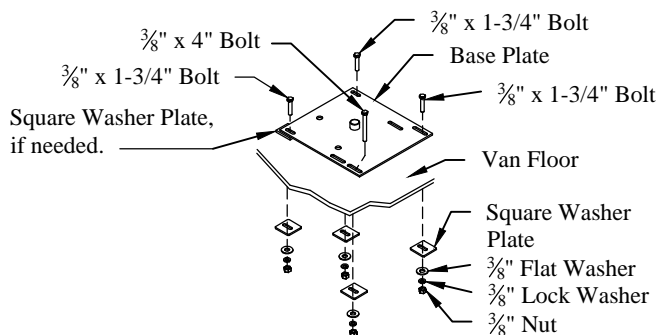

Figure 4: Base plate hardware.
- 9. Bolt** the base plate to the vehicle floor using the hardware provided (Figure 4). Be careful not to collapse the reinforcement rib when tightening the 3/8"x4" bolt.